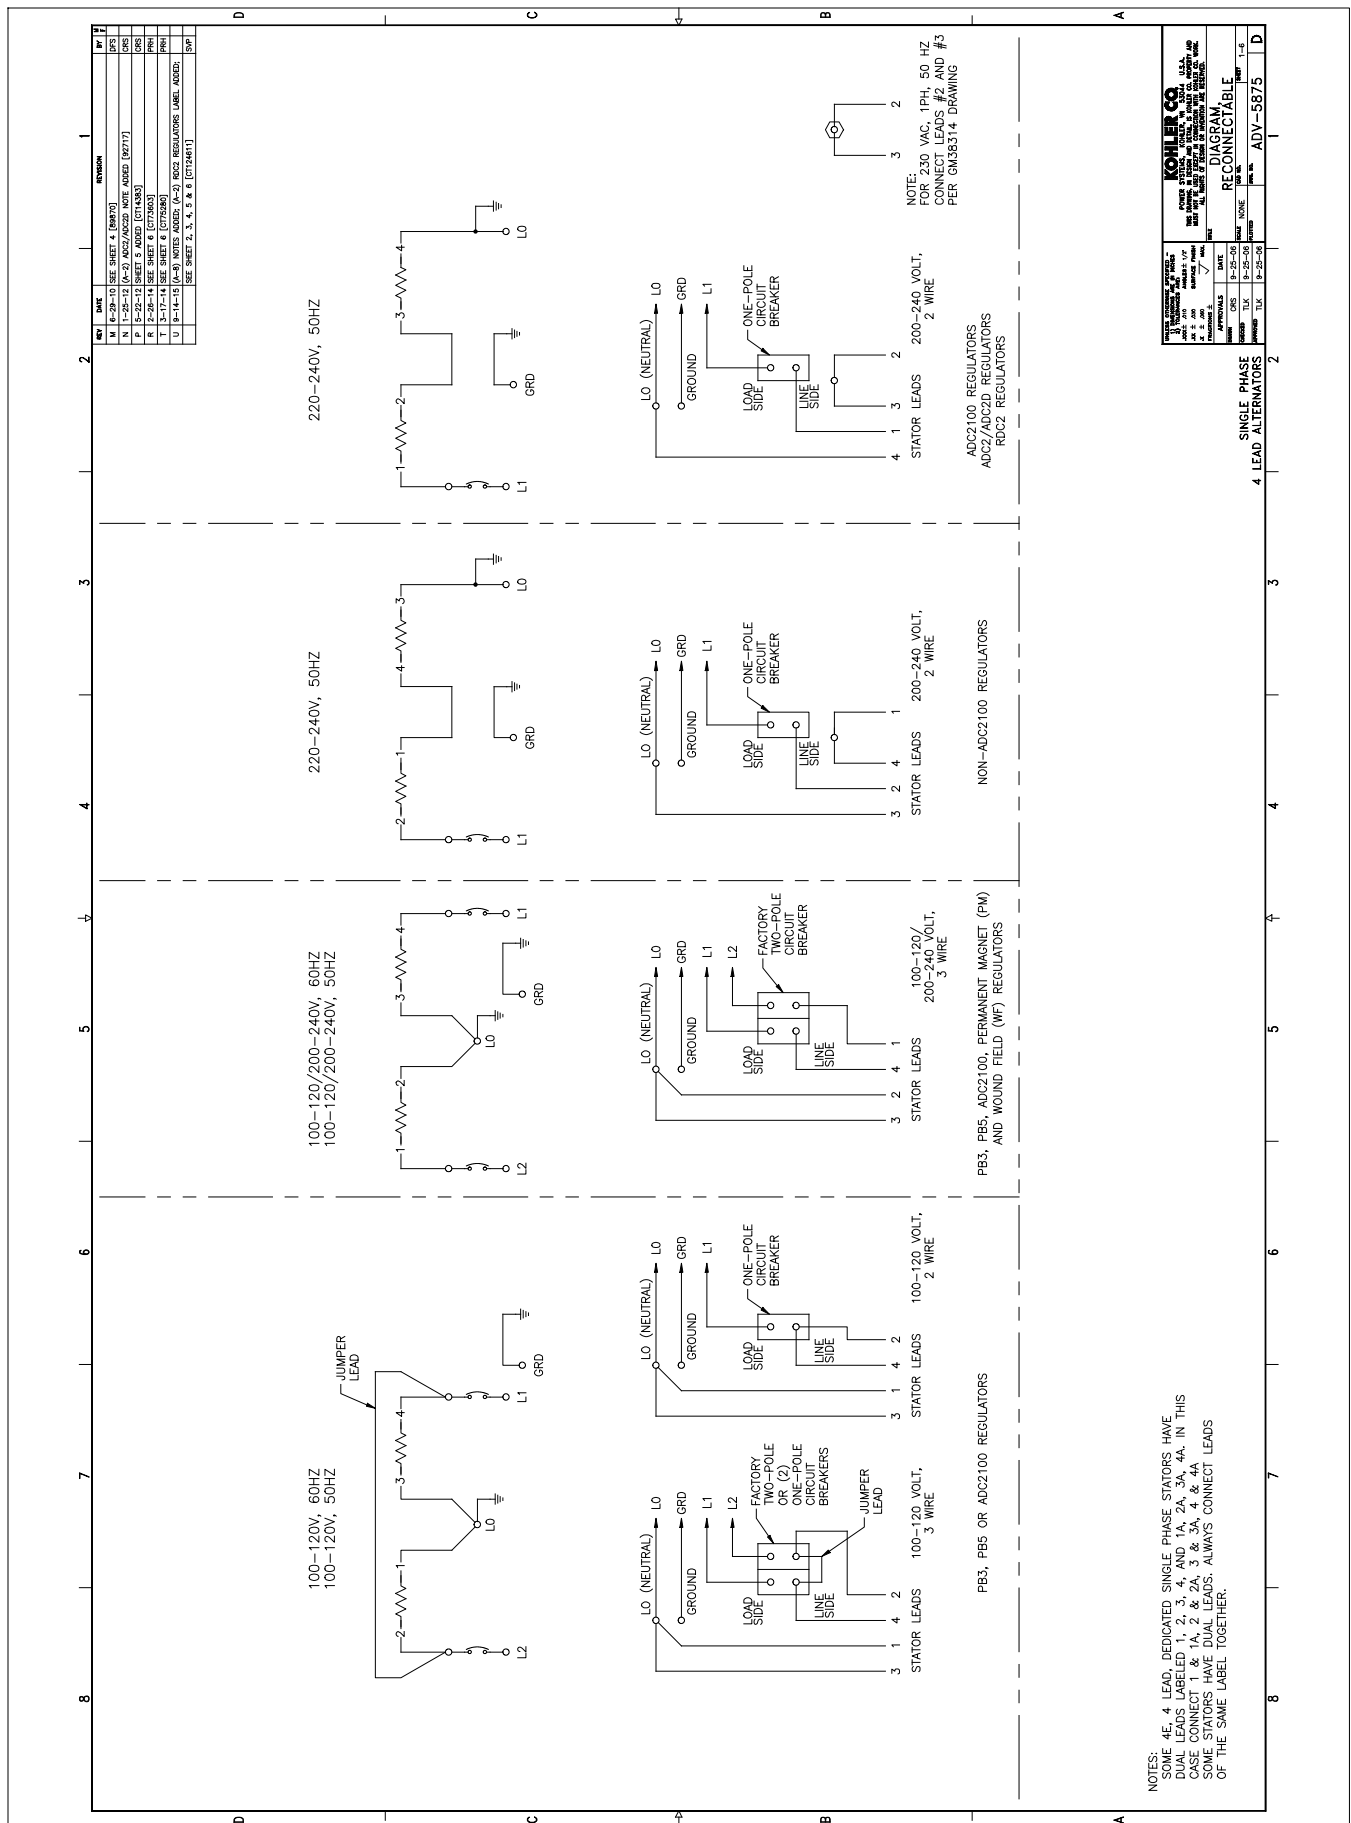
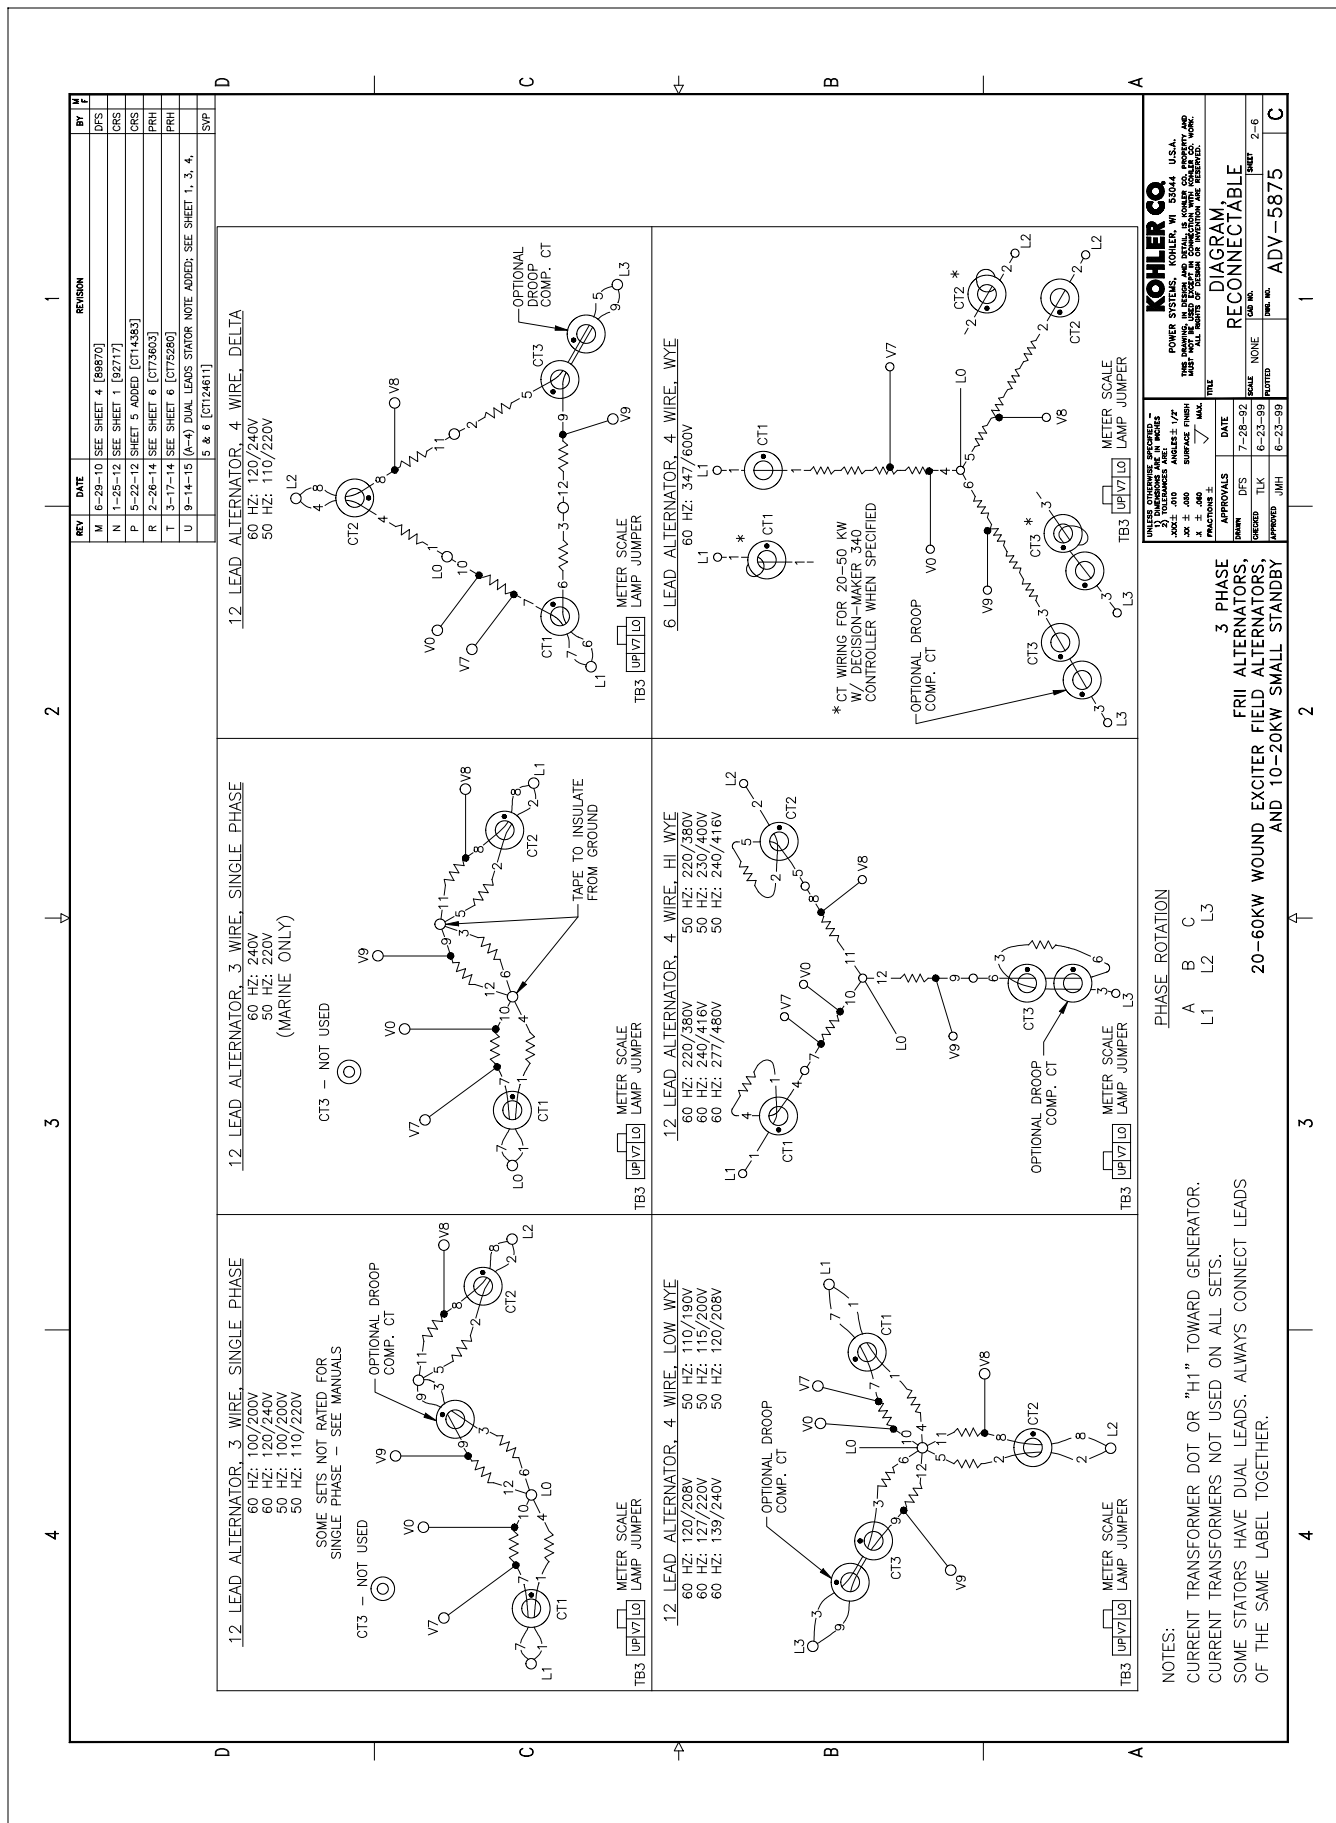

Figure 5-2 20-150 kW Permanent Magnet Single-Phase Alternators, ADV-5875U-1
Figure 5-3 20-300 kW Permanent Magnet Alternators, ADV-5875U-2
8. Use Figure 5-2, Figure 5-3, or Figure 5-5 to determine the generator set voltage configuration. Note the original voltage and reconnect as needed. Route leads through current transformers (CTs) and connect them according to the diagram for the desired phase and voltage.
3. Use Figure 5-2, Figure 5-3, Figure 5-4, or Figure 5-5 to determine the generator set voltage configuration. Note the original voltage and reconnect as needed. Route leads through current transformers (CTs) and connect them according to the diagram for the desired phase and voltage.